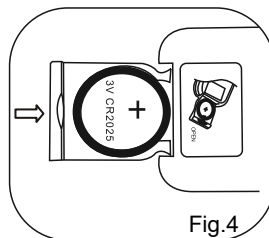

Fig.4
3. Push back the battery holder as Fig.4.